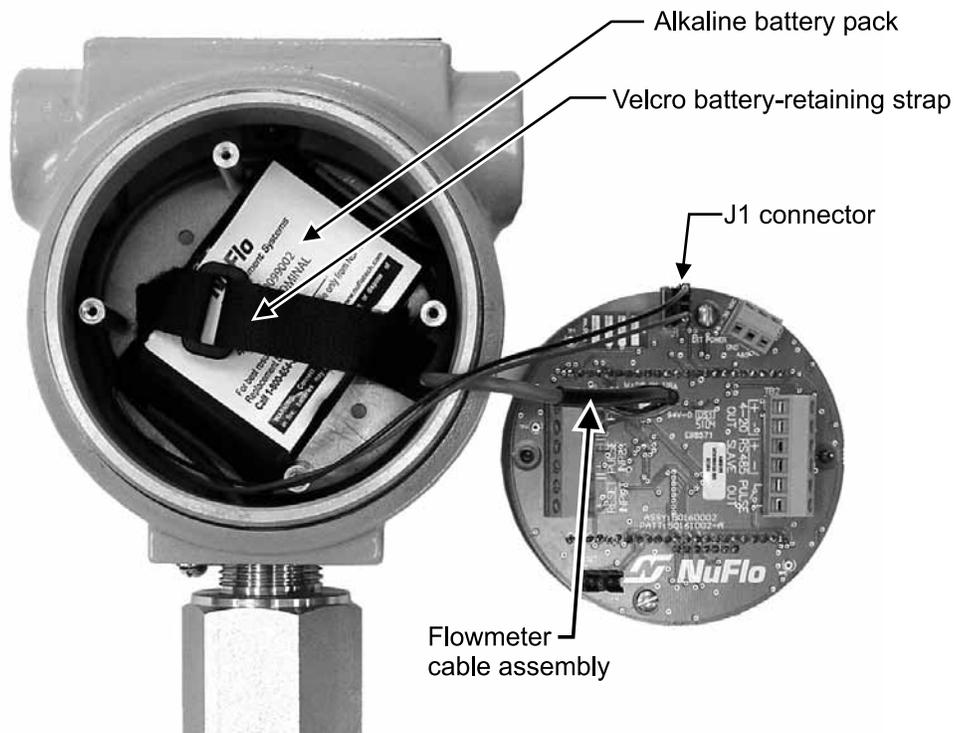

Figure 6.4—Removal/replacement of alkaline battery pack
4. Loosen the Velcro strap, disconnect it from the J1 connector on the circuit assembly, and remove the battery from the enclosure (Figure 6.4).
5. Install the new shrink-wrapped battery pack in the same position as the original battery pack as shown in Figure 6.4, page 88 and secure the Velcro strap to hold the pack tightly in place.